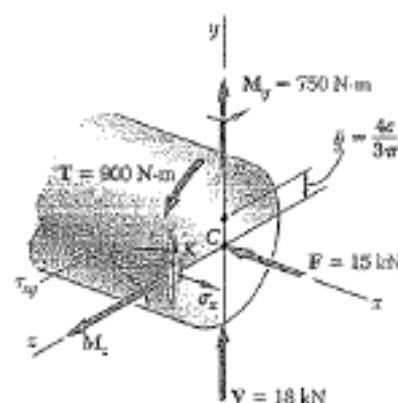

Fig. 8.23
The results obtained are shown in Fig. 8.23.
a. Normal and Shearing Stresses at Point K . Each of the forces and couples shown in Fig. 8.23 can produce a normal or shearing stress at point K . Our purpose is to compute separately each of these stresses, and then to add the normal stresses and add the shearing stresses. But we must first determine the geometric properties of the section.
Normal Stresses. We observe that normal stresses are produced at K by the centric force F and the bending couple M_y , but that the couple M_z does not produce any stress at K , since K is located on the neutral axis corresponding to that couple. Determining each sign from Fig. 8.23, we write